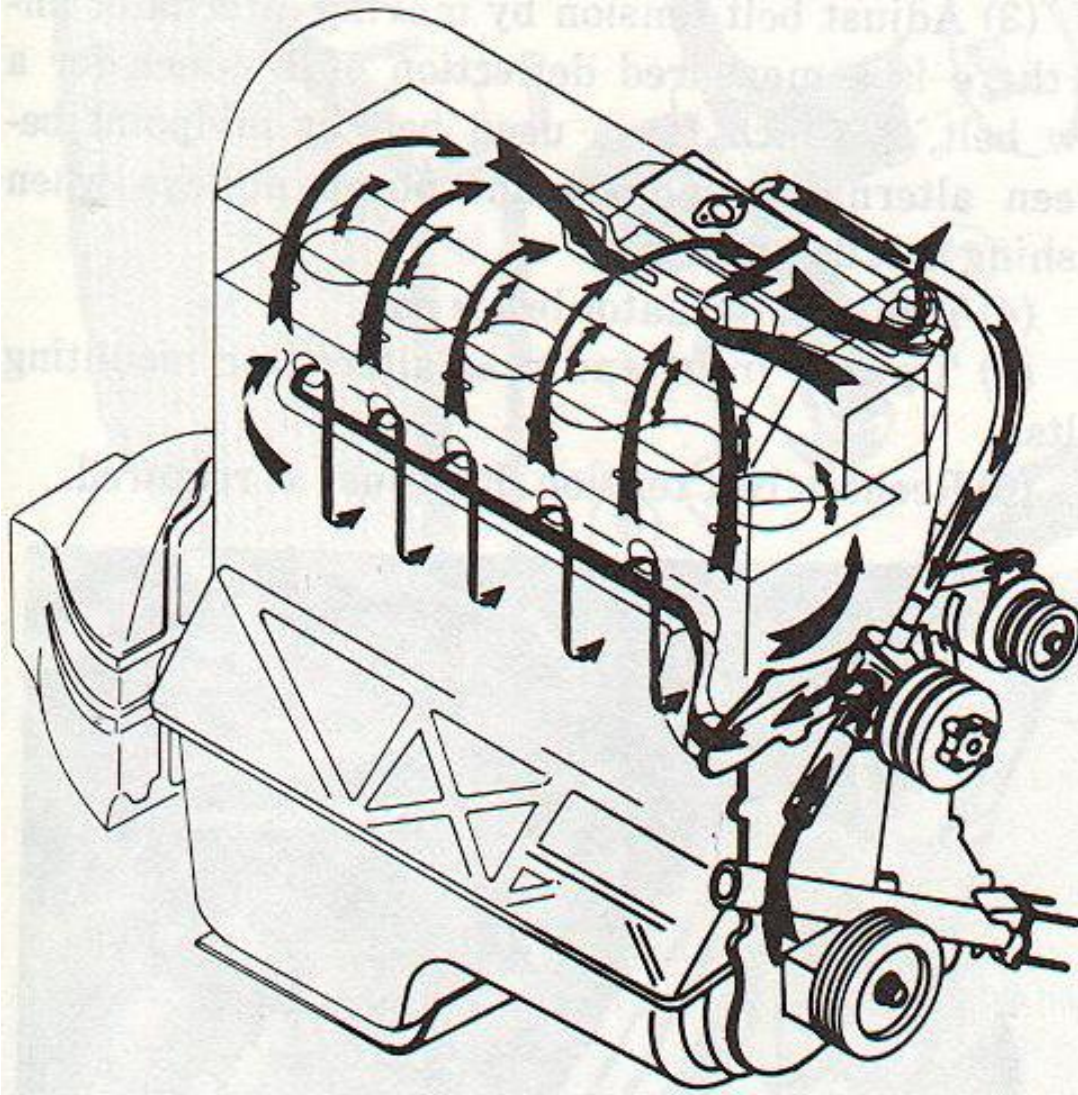

Figure 2-23. Coolant flow through engine
a. Cooling System. The cooling system (fig 2-23) is a forced circulation, pressurized type consisting of a coolant pump, fan, shroud, drive belts, hoses radiator and a pressurizing radiator filler cap. The coolant is drawn from the radiator by the water pump and circulated through the cylinder block and head. After circulation throughout the engine, the coolant is forced through an outlet past the thermostat, and back into the radiator assembly. As the coolant passes through the radiator, it is cooled by air drawn through the radiator by the fan and the forward motion of the vehicle. When because of insufficient operating temperature, the thermostat is closed, constant circulation of the coolant is provided through the engine by a bypass hose connecting the thermostat housing with the intake side of the coolant pump assembly.
g. Thermostat. The thermostat is a spring and cartridge type, located in the thermostat housing, on top front end of intake manifold. The thermostat restricts the flow of coolant to the radiator until a predetermined temperature is obtained at which time it begins to open. When the coolant at the thermostat reaches the rated temperature of the thermostat, the thermostat valve will be fully opened. Refer to figure 2-23.